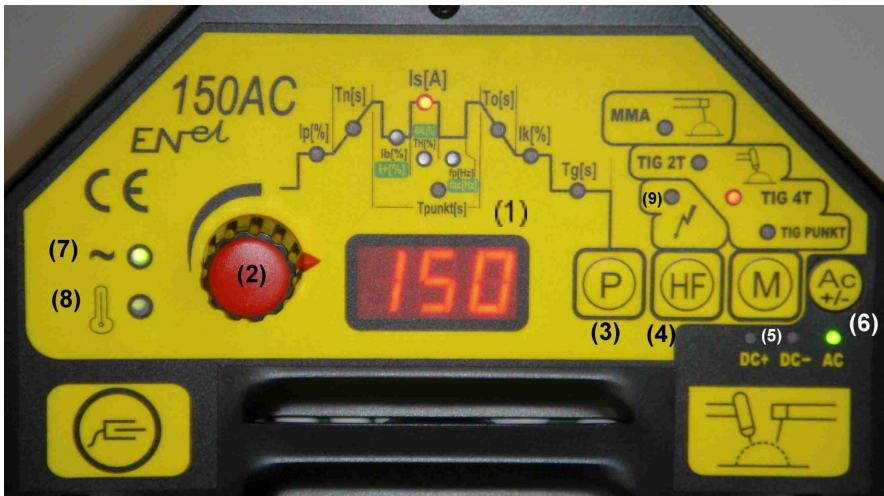

Figure1
Control and indicating elements of the welder are shown in Fig. 1.
There are four operation modes available to select with the button (5) (Fig. 1):
AC welding is possible only for TIG welding. Select AC. Using the knob (2) (Fig. 1) select the diameter of the electrode E1.6, E2.4 or E3.2.
The main switch of welding machine (green) is located on the rear panel - backlight of the key indicates that the power cord is connected to the mains. After the welding machine is turned on, the green indicator (7) (Fig. 1), digital display and the red light indicating the last selected operating mode light up.
A welder has a thermal protection to protect certain components against excessive overheating. Activation of this protection is indicated by the lamp (8) (Fig. 1) shining yellow.